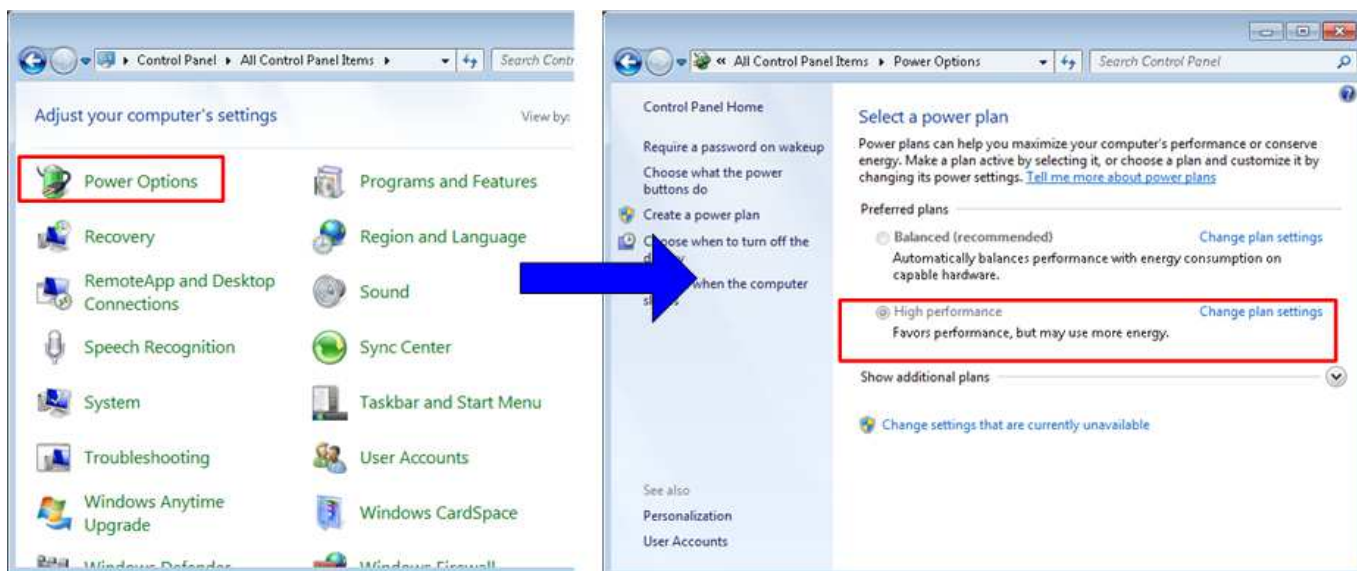

Figure 3-5 Power options
- 1) Open Control Panel and select Power Options as shown in the left window of Figure 3-5.
- 2) Change setting to High Performance as shown in the right window of Figure 3-5.